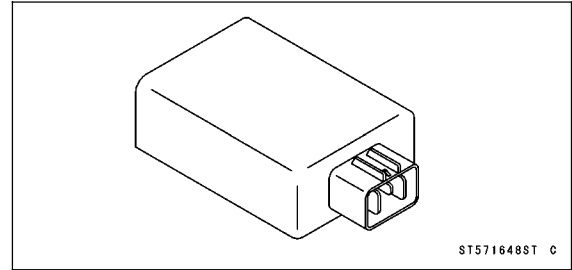

Fig. 2-6 KDS 3 Adapter
- Connect the KDS 3 Adapter (P/N 57001-1648) to the unit (see section 3.2). Fig. 2-6